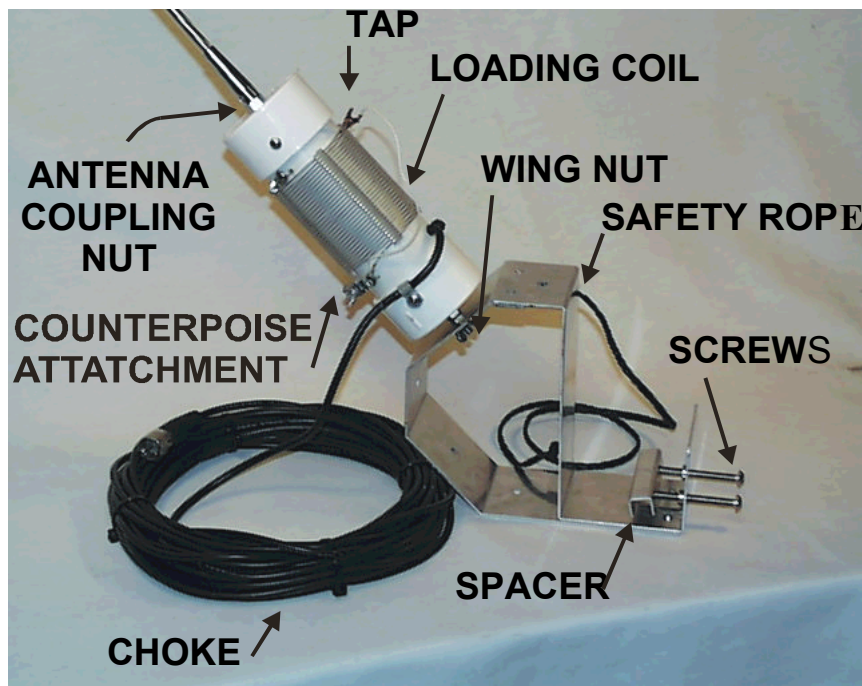

Figure 1
- [] 3. Screw the antenna into the coupling nut (shown in Figure 1) located on top of the coil assembly.
- [] 8. Use the three black wire ties supplied to tie the choke coils together. Space the ties out evenly around the circle. Figure 1 shows a picture of the finished choke.
- [] 9. Insert the $\frac{1}{2}$ " x 3 $\frac{1}{8}$ " bolts into the threaded holes on the base plate approximately one inch as shown in Figure 1.
- [] 10. Place the spacer plate onto the bolts as indicated in Figure 1.
- [] 11. Push one end of the safety rope through the rope hole as indicated in Figure 1. Tie a knot on both ends of the rope to secure it.
- [] 5. Decide which mount hole will be used on the mounting bracket according to your situation. There are five holes available. Figure 1 indicates the possible hole positions.